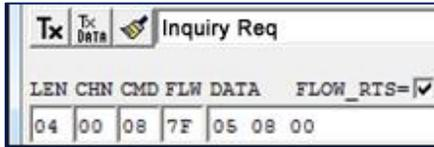

Figure 5: Inquiry Req
1. In the MpBtHost window for the HID device, select **Inquiry Req** from the drop-down menu. The CMD and DATA textboxes are updated as shown (Figure 5).